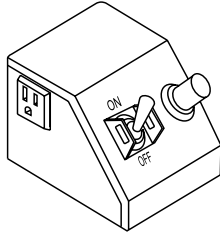

Figure 15. Power ON/OFF Switch (ON)
- Turn the power ON/OFF switch (Figure 15) to the ON position with the blade away from the material to be cut, the cutting blade should begin to rotate. Before cutting remember to follow all safety rules referenced in this manual.